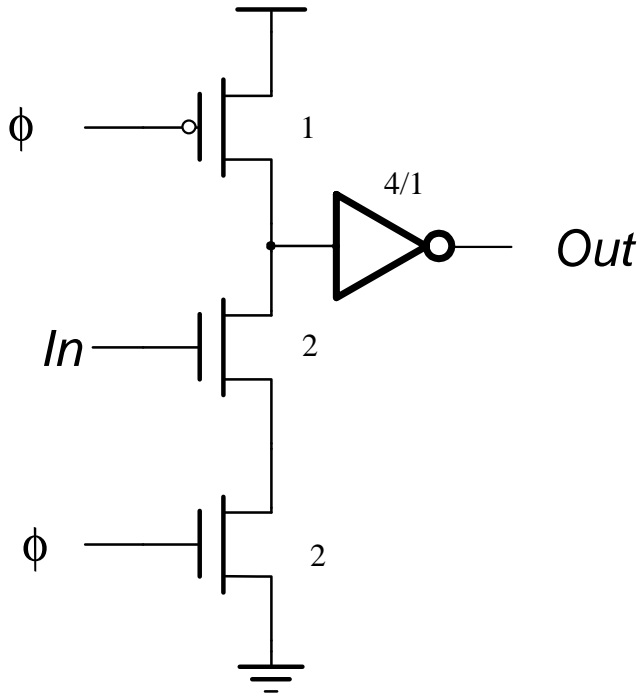

Fig. 1.
b) (8pts) Calculate the optimal fanout for the domino buffer with a foot switch (as one shown in Fig.1).